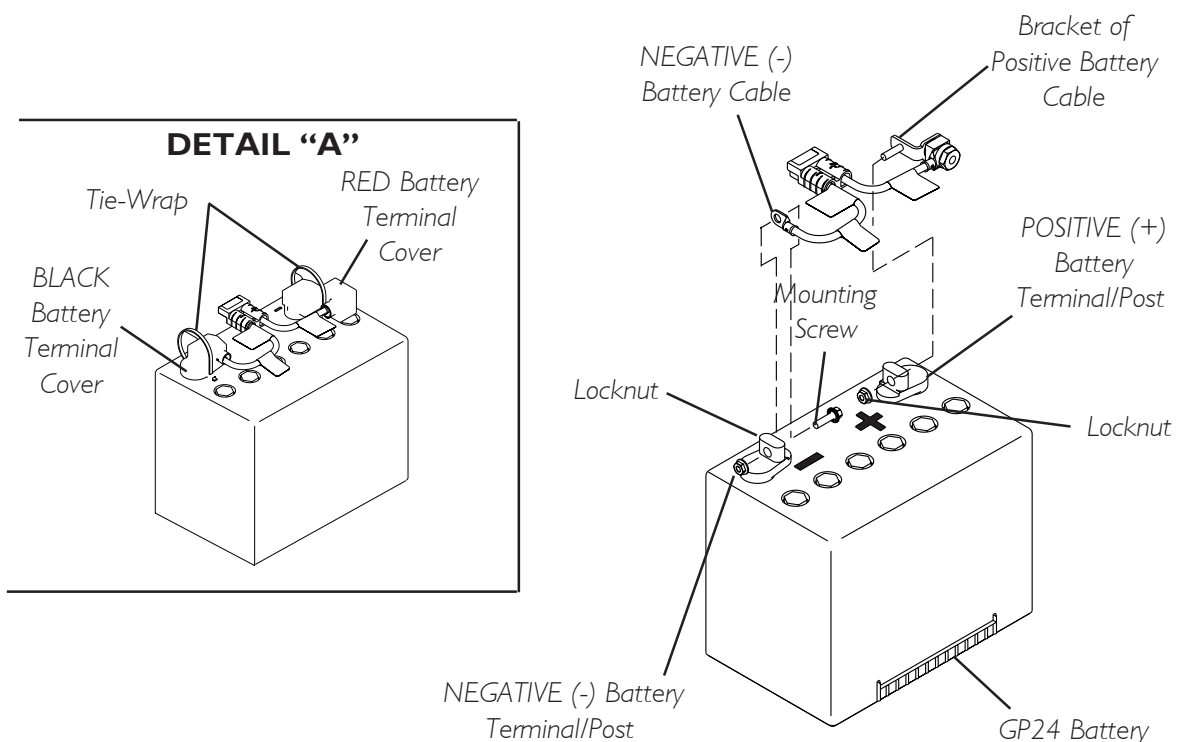

FIGURE 7 - REPLACING GROUP 24 BATTERIES - FRONT BATTERY WITH WIRING HARNESS
Front Battery with Wiring Harness (FIGURE 7)
2. Cut the tie-wraps that secure the battery terminal covers to the battery terminals. Refer to Detail “A” in FIGURE 7.
3. Perform the following: (Detail “A” in FIGURE 7)